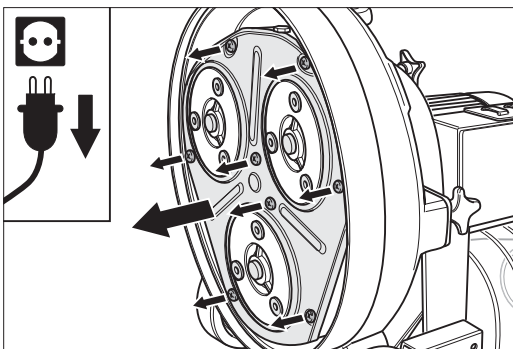

Fig. 54 Then remove the eight screws and pull off the cover.
- 6 Loosen all eight cover screws and take the cover off (Fig. 54).